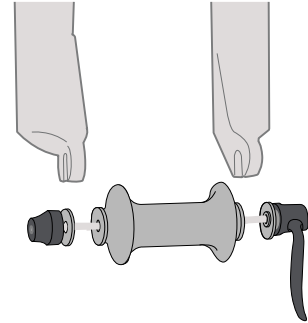

Figure 6. Pull out dropout washers
2. Grasp the dropout washers on either side of the hub and pull outward, compressing the springs (Figure 6).